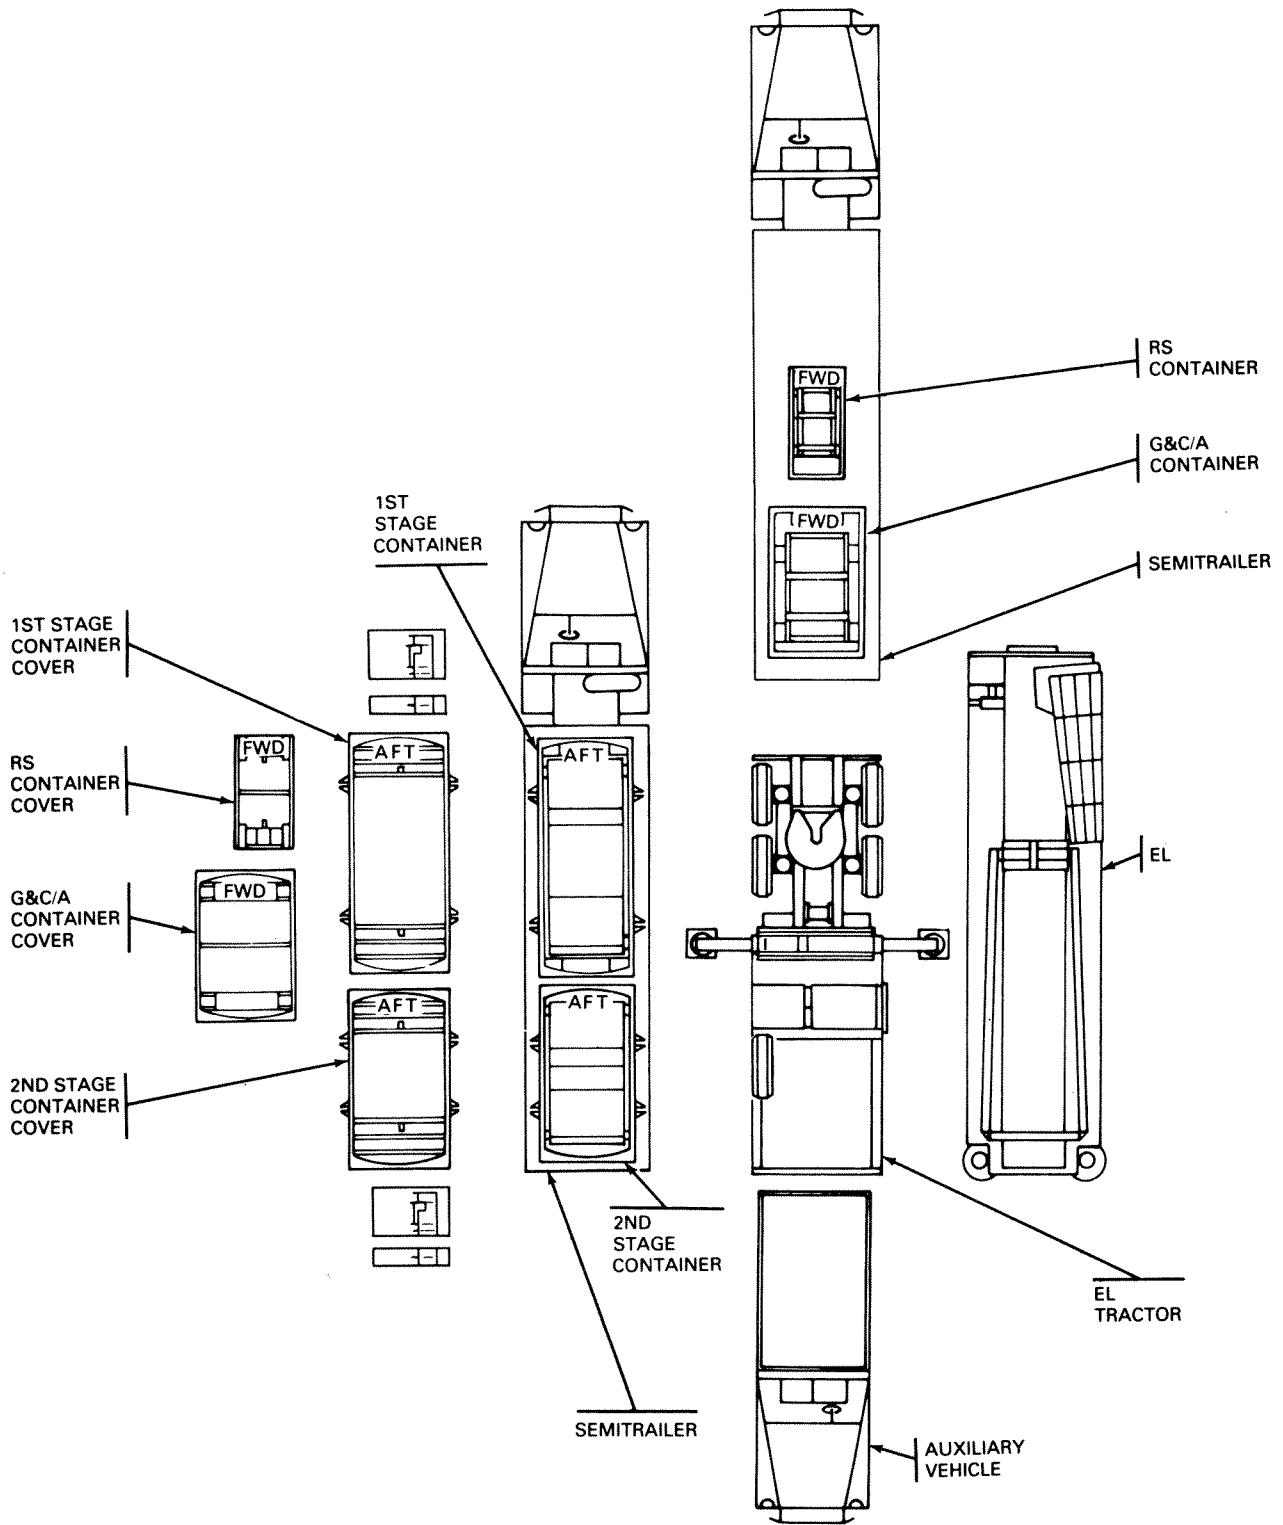
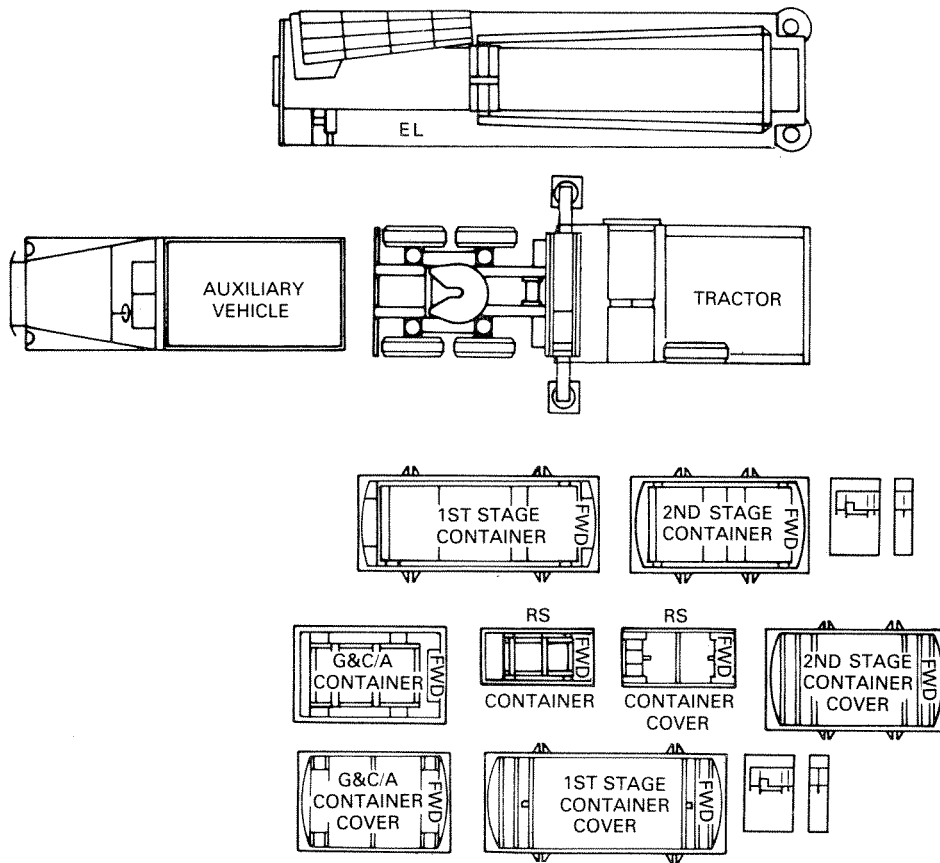

Figure 2-1. Typical Positioning of Vehicles for Missile Assembly (EL Tractor to Roadside of EL)
Figure 2-3. Typical Positioning of Containers for Missile Assembly (EL Tractor to Roadside of EL)
a. *Missile Assembly.* The missile sections arrive in shipping containers (see paragraph 2-8 for container description). The missile can be assembled with containers on trailers as shown in figure 2-1 or 2-2. The missile also can be assembled with containers removed from the trailers and placed on the ground as shown in figure 2-3 or 2-4. The missile sections are removed from the containers and assembled on the EL. The WS may be transported either mated to the RS in the EL pallet or in the WS container.